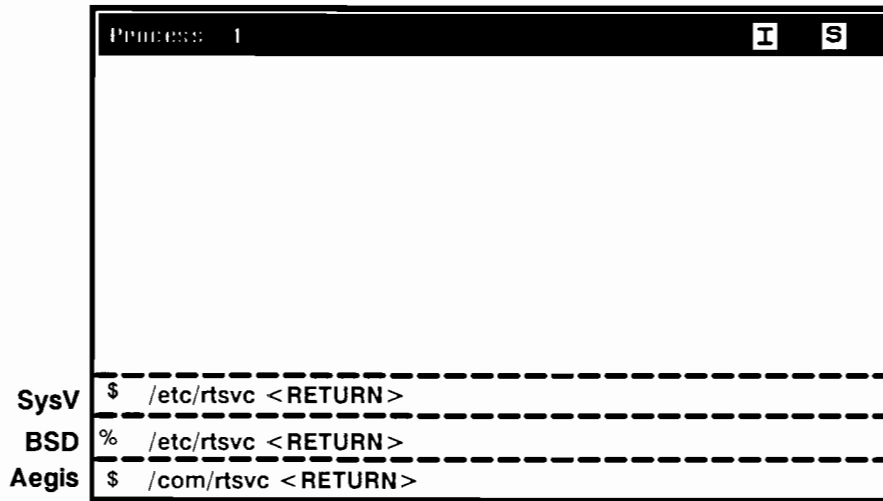

Figure 9-1. Checking the Principal Network on Another Node
2. Verify the network of the node you chose in Step 1 by typing the **rtsvc** command as shown in Figure 9-1.